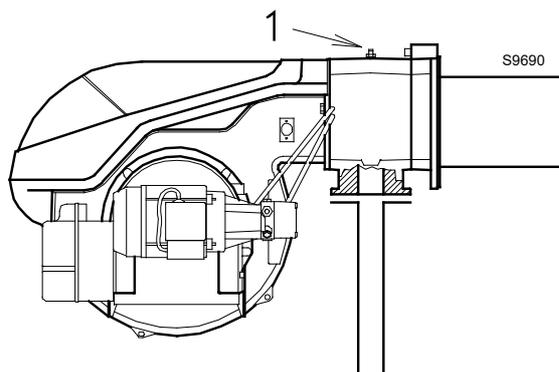

Fig. 21
Gas pressure measured at the test point 1)(Fig. 21), with:
Pressure loss at gas butterfly valve 2)(Fig. 21) with maximum opening: 90°.
Pressure loss of gas train 3)(Fig. 21) includes: adjustment valve VR, safety valve VS (both fully open), pressure adjuster R, filter F.
- subtract the combustion chamber pressure from the gas pressure measured at test point 1)(Fig. 21).
To calculate the required gas pressure at test point 1)(Fig. 21), set the maximum modulating output required from the burner operation:
- Read, on the right (column 1), the pressure at the test point 1) (Fig. 21).
pressure required at test point 1)(Fig. 21).